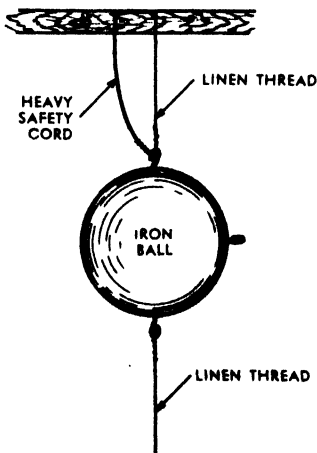

FIG. 230. INERTIA.
a) Suspend a heavy weight by a piece of linen thread as shown in Fig. 230. Tie a second piece of thread to the bottom of the weight.